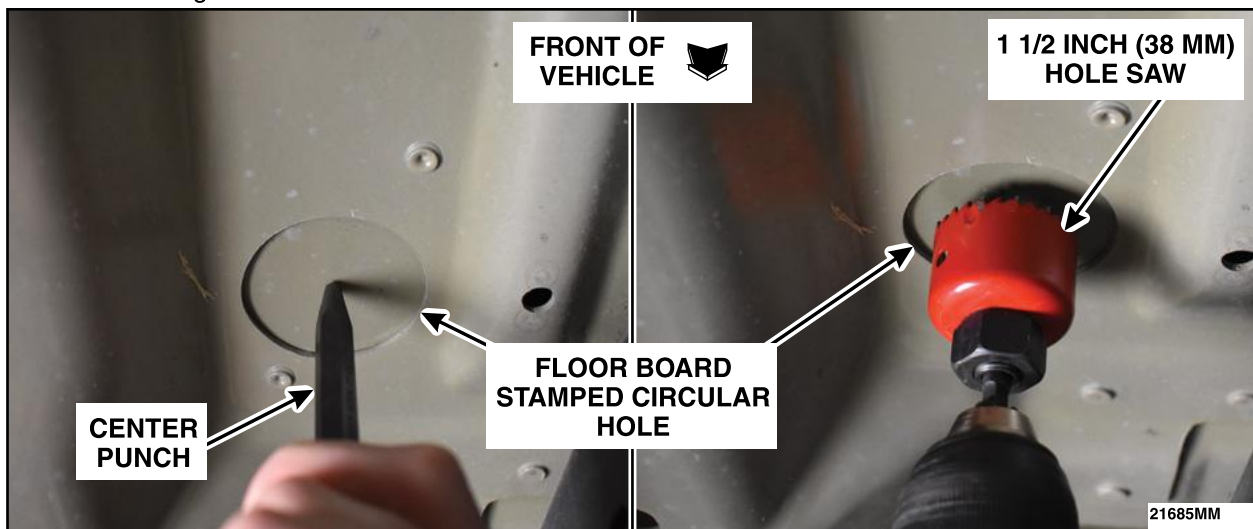

FIGURE 40
44. Locate the floor board stamped circular hole on the under side of the front passenger floor board. Using a Center Punch, mark the center of the circular hole. Using a 1-1/2 inch (38 mm) Bi-Metal Hole Saw with arbor and pilot bit, drill through the floor board towards the inside of the vehicle. De-burr the hole. See Figure 40.